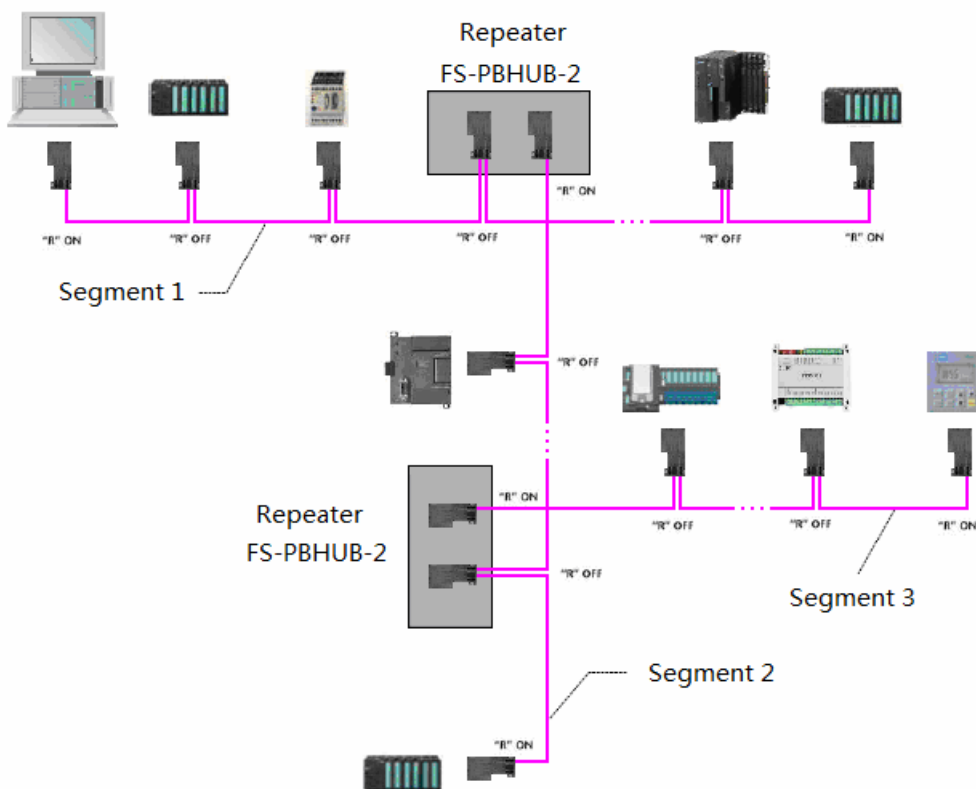

Fig.2-1 Bus branching achieved through the repeater
1. Bus branching (functions of a hub): PROFIBUS network is of bus topology, not allowing branches which makes wiring difficult. Installing a repeater at the junction can amplify one more bus since the repeater can change PROFIBUS bus topology, and achieve other network structures like star structure and mixed pattern, which are convenient for wiring. See Figure 2-1.